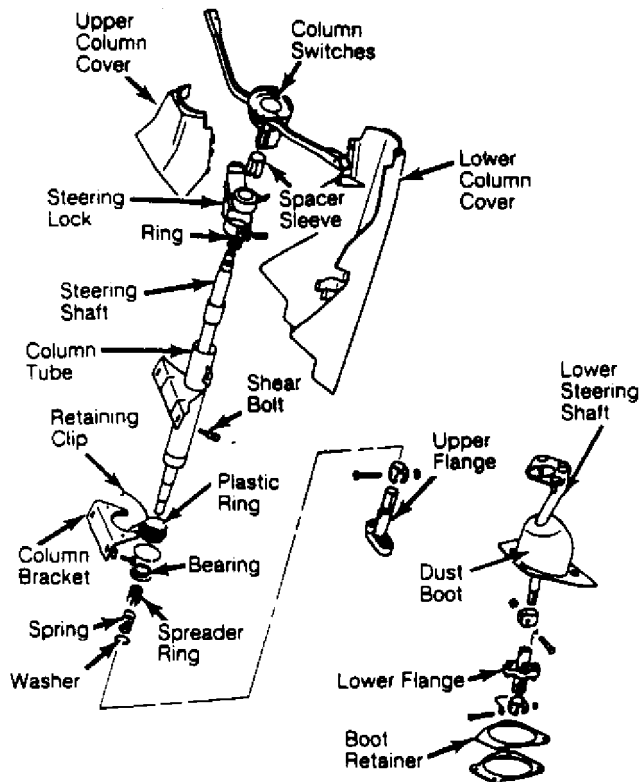

Fig. 1: Identifying Steering Column Components
Vanagon has an energy-absorbing 2-piece steering column, attached to the dash with brackets and to floorboard with a boot flange. Lower steering shaft connects to steering gear. See Fig. 1.
2) Remove washer, spring, and spreader ring from lower end of upper steering shaft. Remove bearing, plastic ring, and column bracket. See Fig. 1.